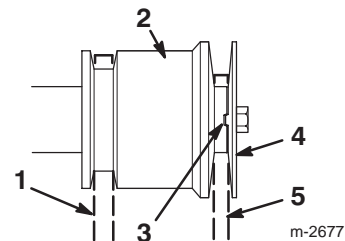

Figure 27
Note: Do not to pinch the traction drive belt (Fig. 27).
15. Install the engine pulley sheave, ensuring that the indexing rib in the engine pulley sheave aligns with the indexing notch in the engine pulley (Fig. 27).
16. Install the washer, lock washer, and crankshaft bolt that secures the engine pulley sheave (Fig. 27).
Note: Do not pinch the auger/impeller drive belt (Fig. 27).
Note: Ensure that the indexing rib in the engine pulley sheave aligns with the indexing notch in the center engine pulley. Do not pinch the belt (Fig. 27).